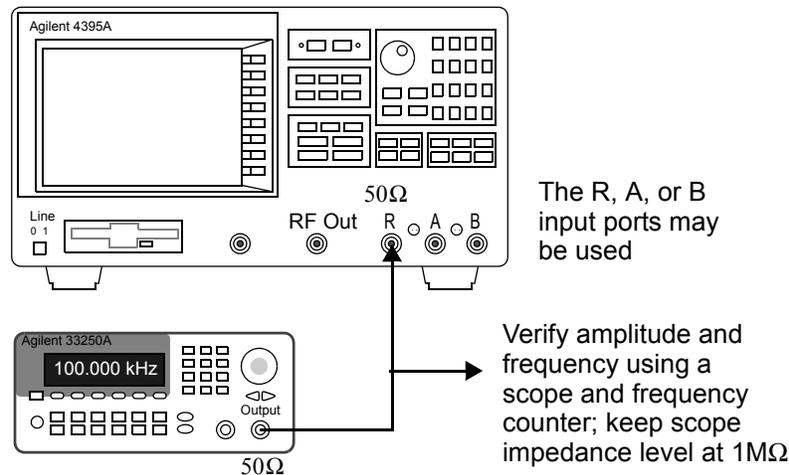

Figure 1: Agilent 4395A Spectrum measurement test setup
- Using an Agilent 33120A (up to 15 MHz operation) or Agilent 33250A (up to 80 MHz operation with a more capable user interface) function generator connect a 1v p-p sine wave at 100KHz to the spectrum analyzer input as shown in Figure 1. The 1v p-p amplitude can be set using an oscilloscope provided the scope is set for 50Ω input impedance. The generator frequency can be set using an HP 5384A frequency counter.